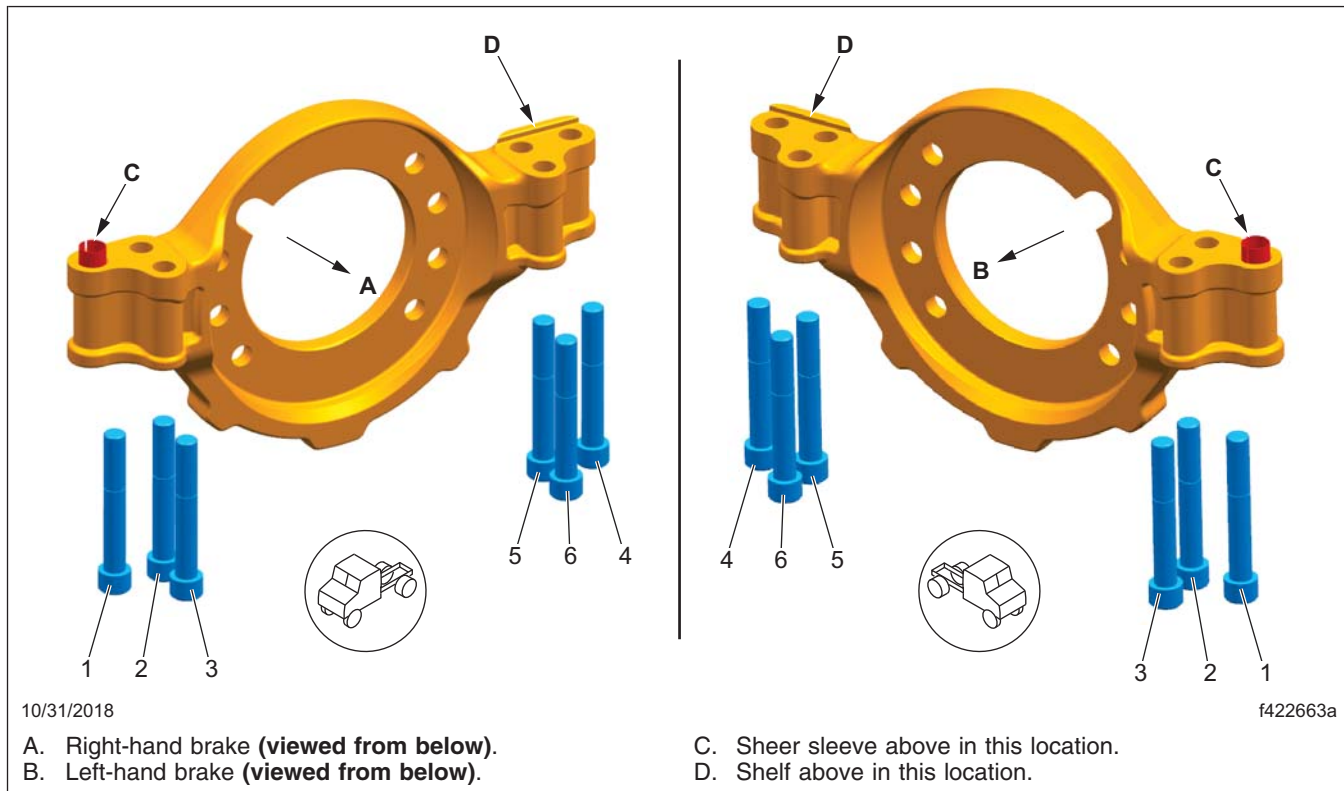

Fig. 7, Bendix Radial Mounted Caliper Tightening Pattern (viewed from below)
4. Set a torque wrench to 200 lbf-ft (271 N·m) and tighten the caliper mounting bolts following the tightening pattern shown in **Fig. 7**. If they do not turn, no further work is needed. If they turn, take the vehicle to an authorized Freightliner dealer to have all of the caliper bolts on that wheel end replaced.